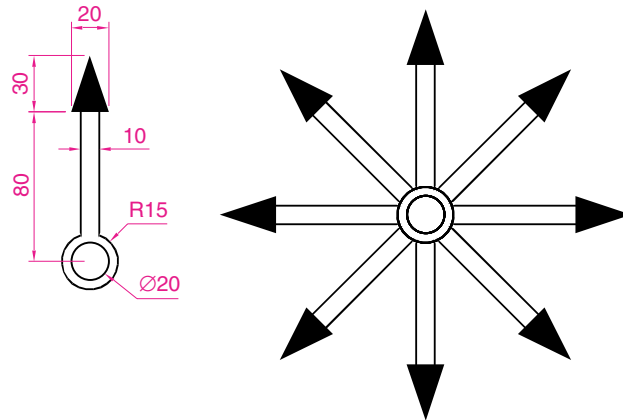

Fig. 5.51 Exercise 5
5. Construct the arrow (Fig. 5.51). Array the arrow around the centre of its circle eight times to produce the right-hand drawing of Fig. 5.51.